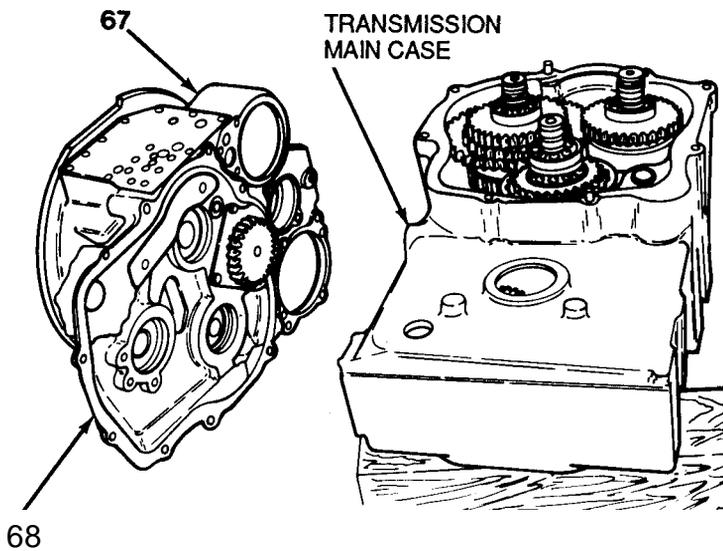

Figure 11-17
10. Install gasket (68, Figure 11-17).